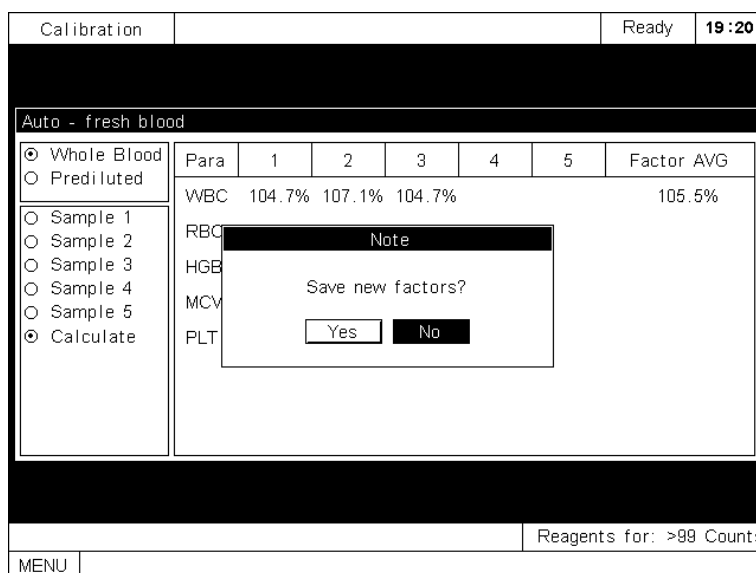

Figure5-24 Saving changes
- Press [F3] and a dialog box will pop up to ask you to save the new factors, as Figure5-24 shows.
- Press [MENU] and a dialog box will pop up to ask you to save the new factors, as Figure5-24 shows. To save the new factors, press [] [] to move the cursor to **Yes** and press [ENTER] to save the factors to the Manual calibration screen and return to the system menu. Otherwise, move the cursor to **No** and press [ENTER] to switch to the system menu without saving the new factors.